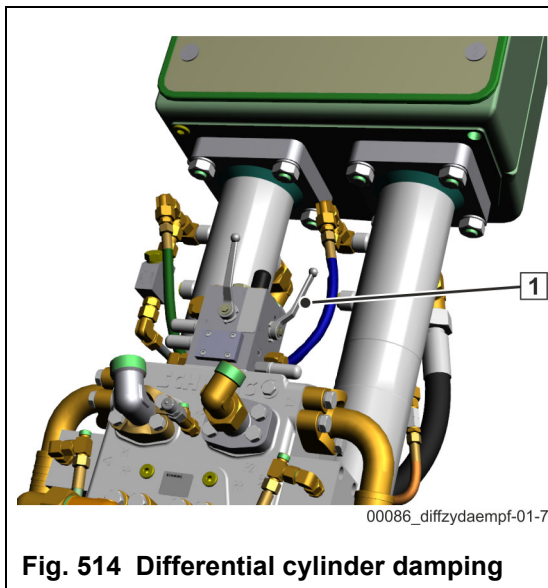

Fig. 514 Differential cylinder damping
The second ball valve (1) (**Fig. 514**) provides extra damping for the differential cylinders in addition to the MPS (Mini Pause Switch).